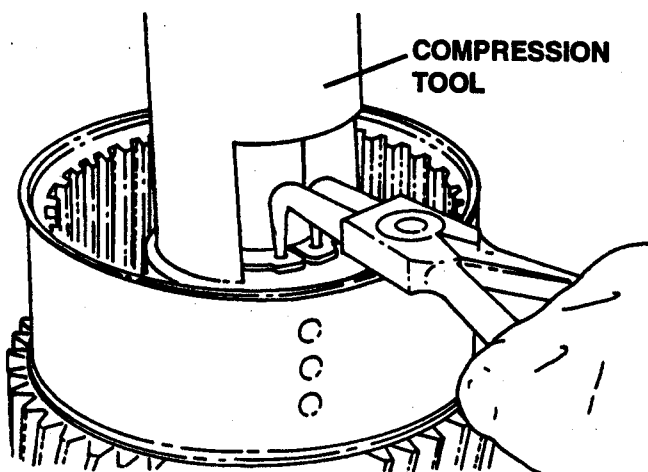

Figure 37.
Compress spring (39) and secure with circlip (41). See Figure 37.